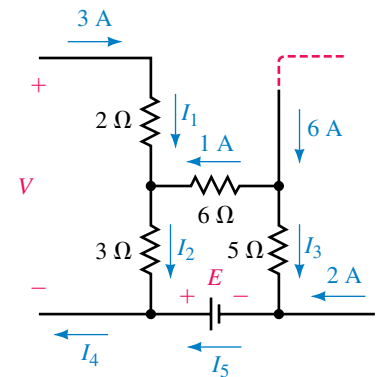

FIGURE 6-56
10. Refer to the network of Figure 6-56: